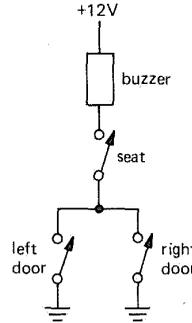

Figure 1.100
**Switch examples.** As an example of what can be done with simple switches, let’s consider the following problem: Suppose you want to sound a warning buzzer if the driver of a car is seated and one of the car doors is open. Both doors and the driver’s seat have switches, all normally open. Figure 1.100 shows a circuit that does what you want. If one OR the other door is open (switch closed) AND the seat switch is closed, the buzzer sounds. The words OR and AND are used in a logic sense here, and we will see this example again in Chapters 2 and 8 when we talk about transistors and digital logic.